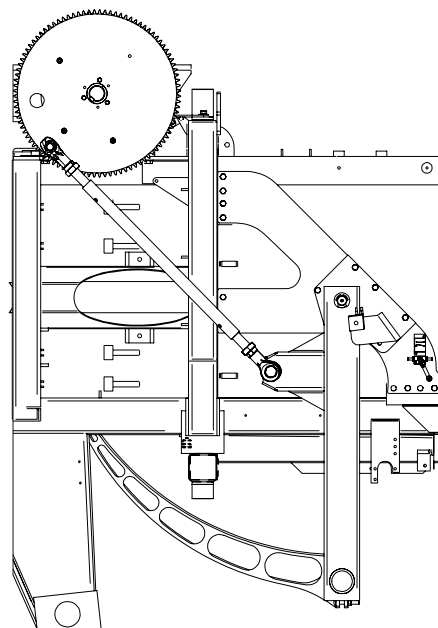

Figure 84 - Twine Needle Yoke in Mid-Stroke Position
4. Slowly reverse the Knotter with the Diagnostic Controller until the needle yoke is at mid-stroke (see Figure 84).